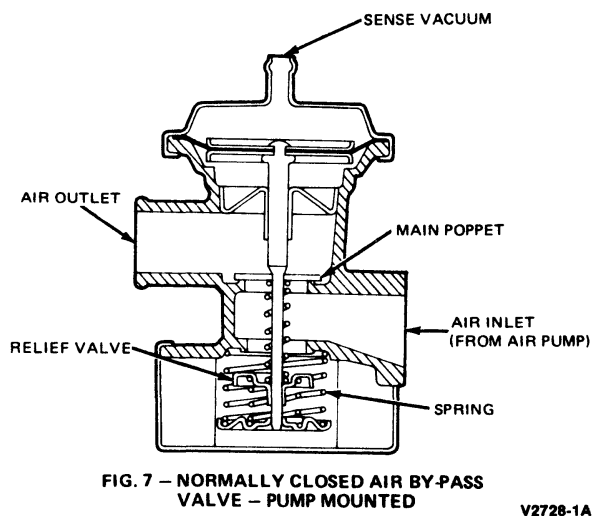

FIG. 7 Normally Closed Air By-Pass Valve—Pump Mounted
- External air injection manifold, (Fig. 7) or